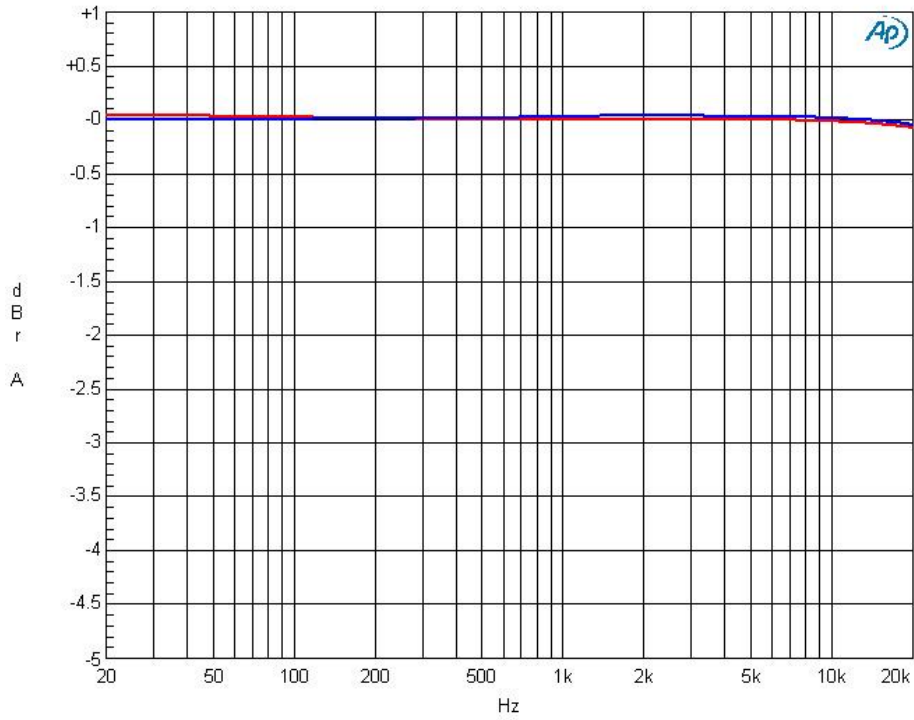

Figure1-7. Frequency Response (Input level=0dB)
- Figure 1-7. Frequency Response (Input Level=0dBFS)